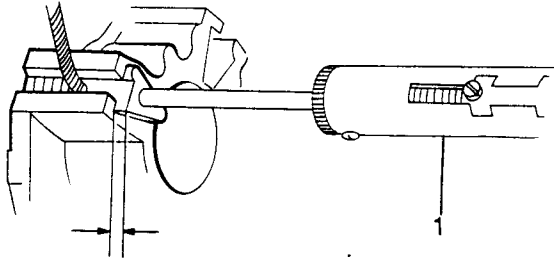

Fig O6.16
- (1) Refer to Fig O6.16. Position a new brush in each of the brush boxes in turn.
- (2) Press on top of the brush with a push-type spring gauge (1) until the top of the brush protrudes by about 1,5 mm from the brush moulding (dimension A).
- (3) Check that the spring gauge reading is 10,0 N.